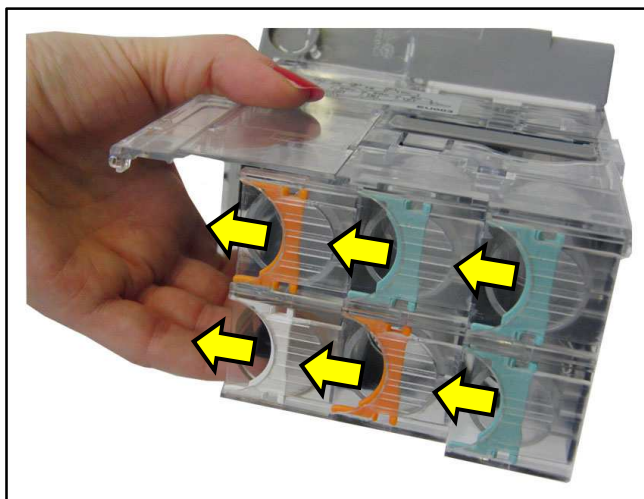

Fig.5A
**BEFORE THE TUBE GROUP IS RE-INSERTED, PLEASE CHECK THE EXTRACTORS ARE PERFECTLY ALIGNED (Fig.5A).